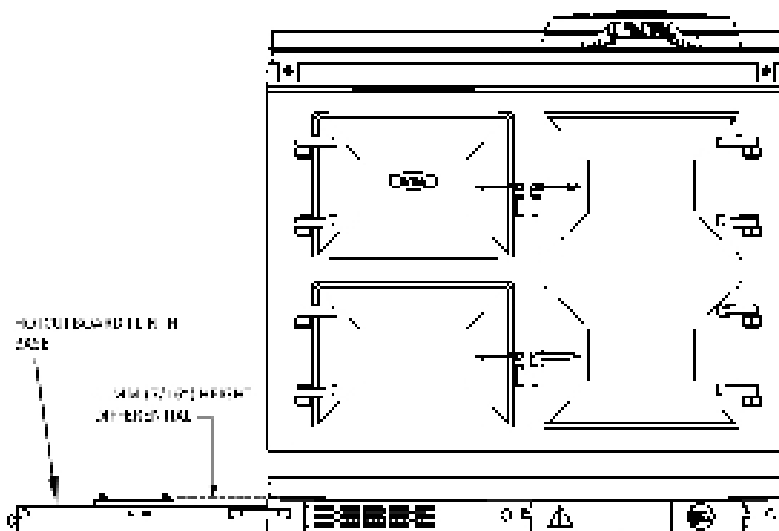

Fig. 5.3
2. Position the plinth alongside the AGA eR7i leaving no gap between the two plinths (**Fig. 5.3**).